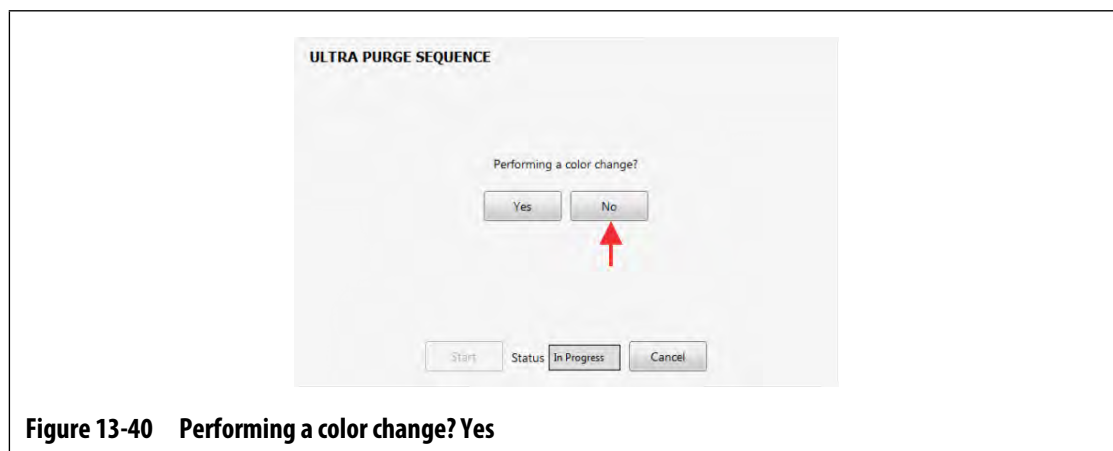

Figure 13-40 Performing a color change? Yes
- When asked if you are performing a color change, touch the **No** button (refer to Figure 13-40).